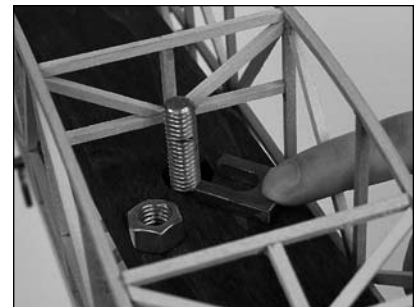

Figure 37
9. Place the load clip on the block and slide it onto the shaft (Figure 37).